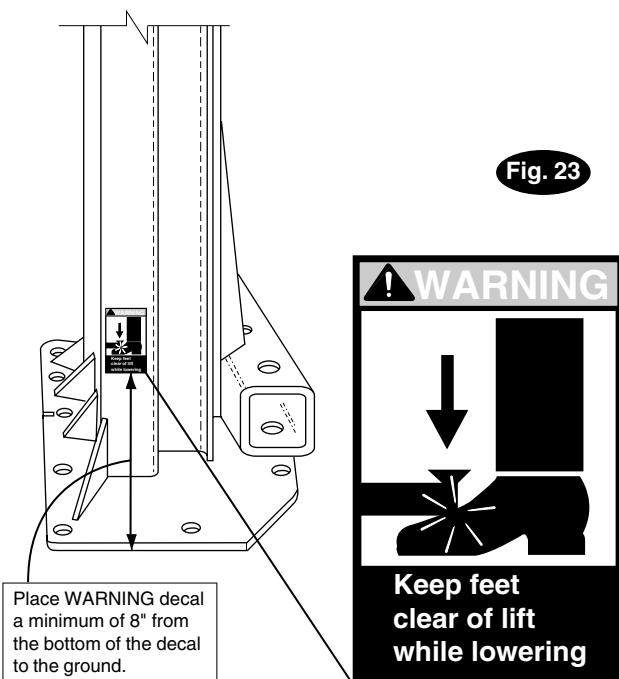

Fig. 23
20. Decal Location: Install enclosed pinch point decals. Place (1) decal on each column, Fig. 23.